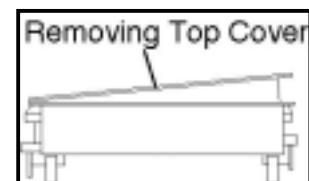

Figure 5
10. Remove top cover (Fig. 5).